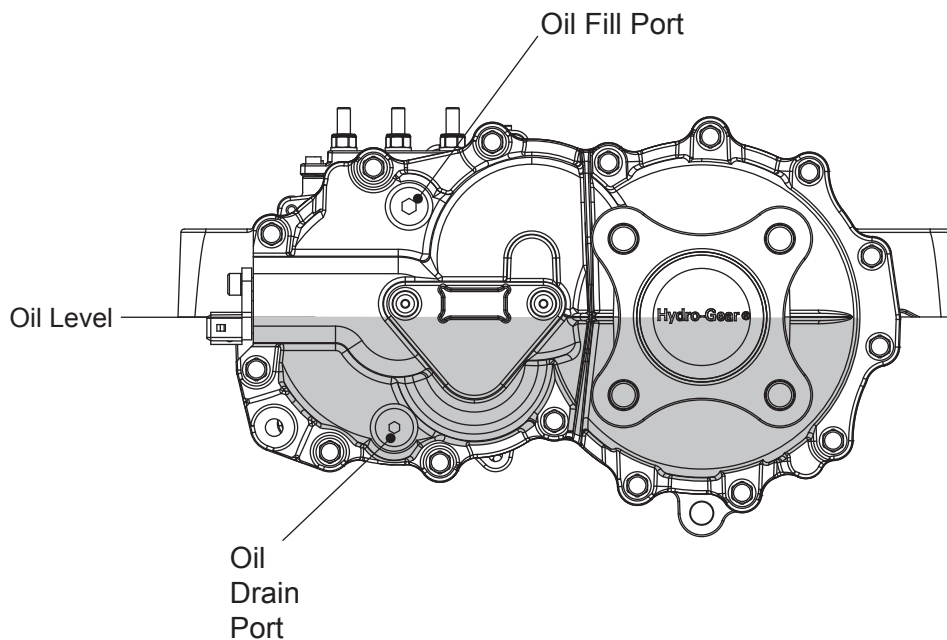

Figure 6. Oil Volume
2. Check oil level in accordance with Figure 6 Page 15.
Certain situations may require additional fluid to be added or even replaced. Refer to Figure 6, Page 15 and page 3 for the proper fill port location.
Fill the Smartec™ transaxle according to Figure 6, page 15 or the specifications below..